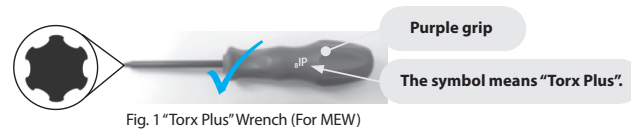

Fig. 1 "Torx Plus" Wrench (For MEW)
1. Ref. to Fig. 1 for "Torx Plus" Wrench. (Purple grip)